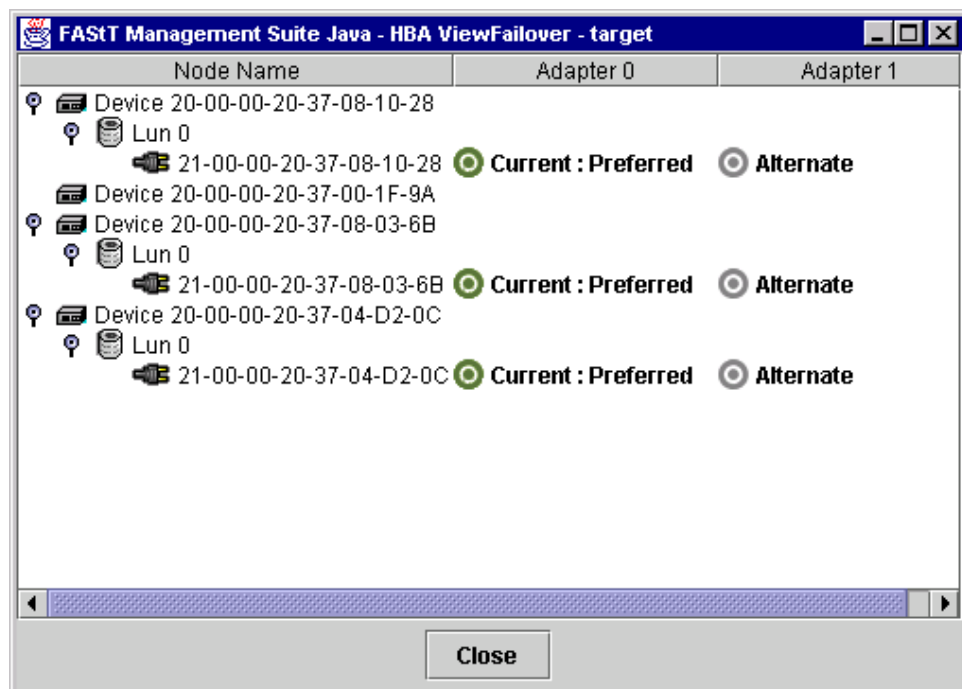

Figure 105. HBA View Failover window
- Right-click the host in the HBA tree. From the pop-up menu, click **Current Path**. The HBA View Failover window displays (see Figure 105).